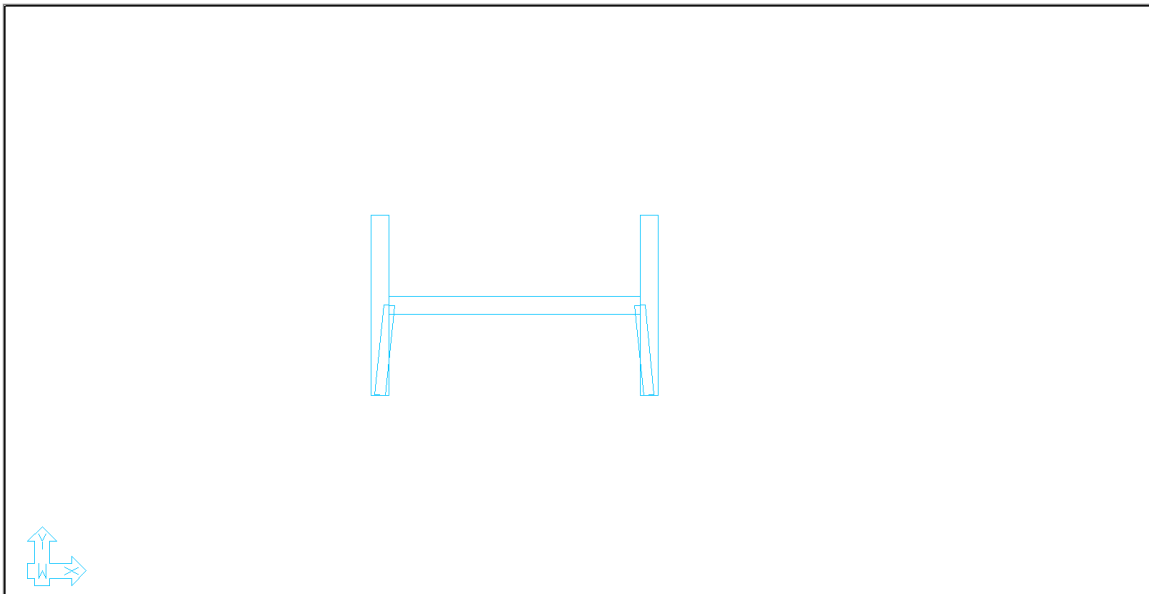

FIGURE 5-17
- Go to *Model->Transform* and click on the **Transform Compound Wall**  icon. This will automatically create multiple wall objects based on the selected closed polyline as shown in **FIGURE 5-17**.